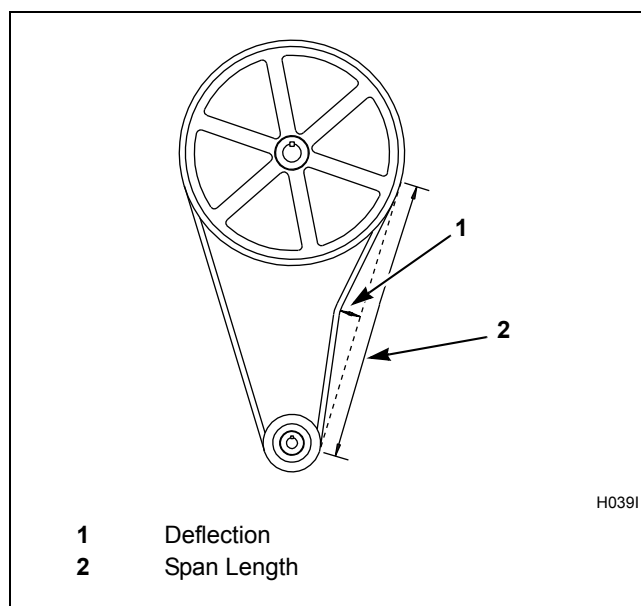

Figure 8
- d. **For F and variable-speed models only**, verify that V-belts are properly tensioned by applying a set force to the belts and measuring the deflection to determine the belt tension. Refer to *Table 2* for the acceptable belt's tension ranges. Belt tension measurements should be taken as close to the center of the belt span as possible. Refer to *Figure 8*.